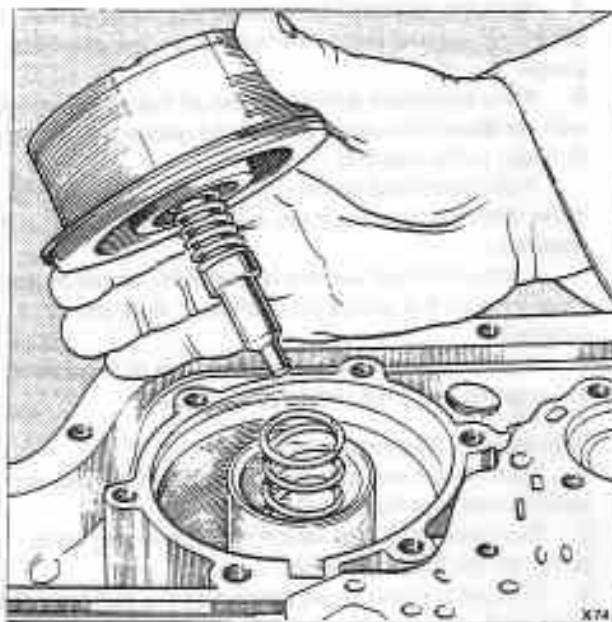

Fig. T14-1 Removing the rear servo
5. Remove the servo unit from the casing (see fig. T14-1).